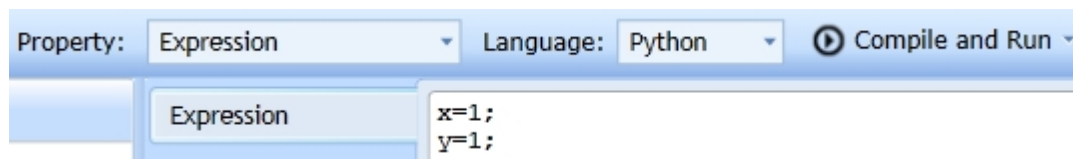

Figure 2: Expression Editor - Defining variables
- 4) To give an example we will define the variables x and y by putting the following lines into the expression editor (See Figure 2)